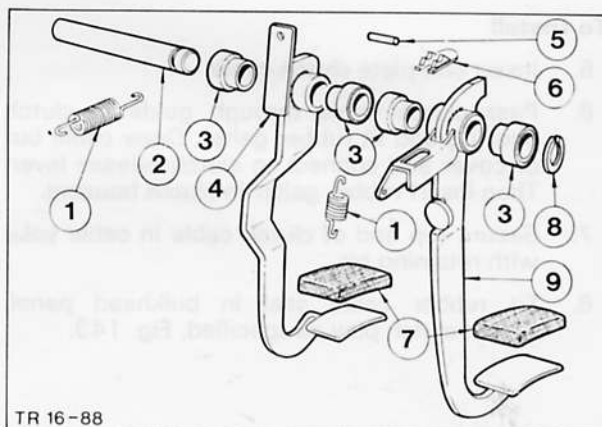

Fig. 140. Clutch mechanism exploded
4. Slide clutch pedal, fitted with new bushes, into pedal bracket, Fig. 140, and connect the clutch cable. Attach return spring. Then hold pedal in line with opening and slide pedal shaft back as far as stop.